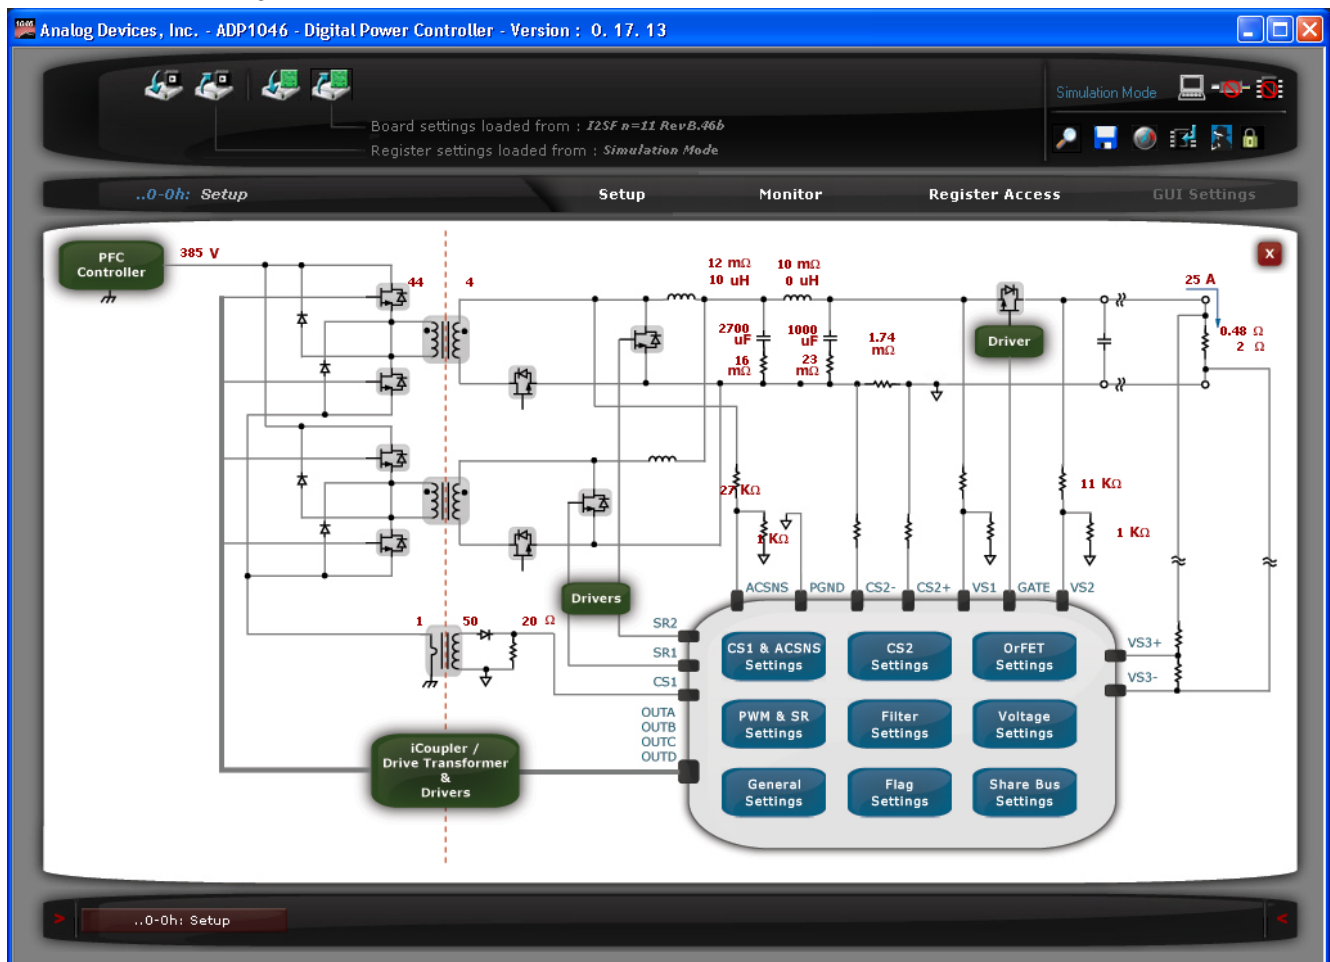

Figure 9. Main Setup Window of the **ADP1046** GUI
Each **ADP1046** chip has trim registers for the temperature, input current, output voltage, output current, and ACSNS. These can be configured during production and are not overwritten whenever a new register settings file is loaded. This is done to retain the trimming of all the ADCs for that corresponding environmental and circuit condition (for example, component tolerances and thermal drift). A guided wizard called the **Auto Trim** can be used to trim the previously mentioned quantities of the trim registers (for example, temperature, input current, output voltage) so that the measurement value matches the values displayed in the GUI, which allows ease of control through the software. Click **Voltage Settings** or **CS2 Settings** in the **Setup** window (see Figure 9) to access the **Auto Trim** wizard.
5. The software should report that the **ADP1046** has been located on the board. Click **Finish** to proceed to the main software interface setup window (see Figure 9). The serial number shown next to the checkbox (see Figure 7) indicates the USB dongle serial number. The windows also displays the device I²C address.
The board settings can be accessed from the main setup window (see Figure 9).
4. The OrFET power-on is dependent on the voltage difference of VS1 and VS2. If the PSU is standalone, the OrFET gate turns on at the beginning of the soft start ramp when VS1 – VS2 is less than or equal to the programmed threshold in the GUI (see the **OrFET Settings** window in the GUI, which is accessed by clicking **OrFET Settings** in Figure 9). The output regulation is from VS3, and the normal filter is in operation.
When a flag is triggered, the ADP1046 state machine waits for a programmable length of debounce time before taking any action. The response to each flag can be programmed individually. Click **Setup** and then **Flag Settings** (see Figure 9) to configure the flags. The **Flag Settings** window shows all the